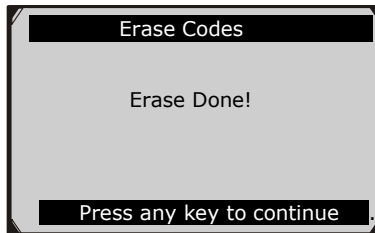

Figure 6.8
- If the codes are cleared successfully, an “Erase Done!” confirmation message shows on the display (Figure 6.8).